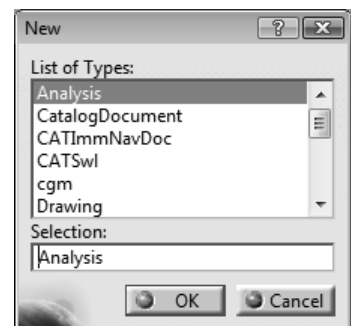

Figure 2-40 The New dialog box
1. Choose **File > New** from the menu bar; the **New** dialog box is displayed, as shown in Figure 2-40. Alternatively, choose the **New** tool from the **Standard** toolbar to invoke the **New** dialog box.